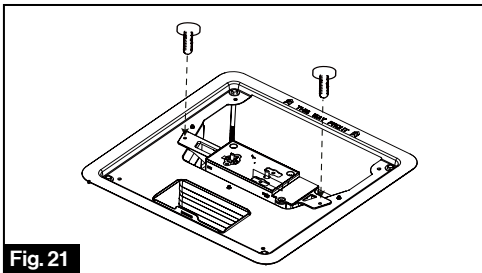

Fig. 21
1. Install the control box into the mounting frame and fix with 2 self-tapping screws (one piece each side). (Fig. 21)